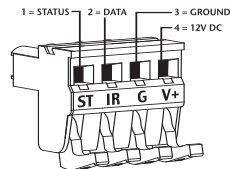

Figure 2
8. Insert each wire into the appropriate hole and snap down the locking tabs. **Figure 2.**